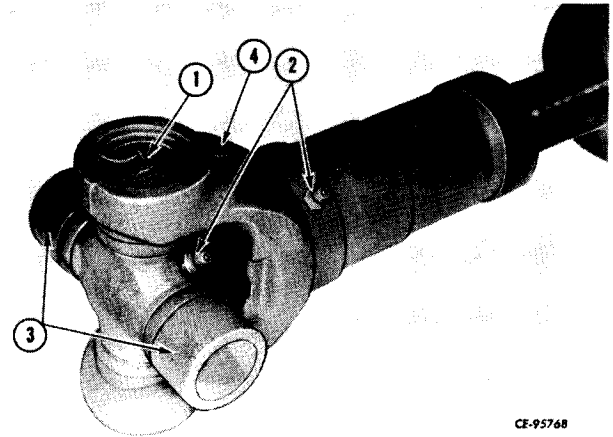

Figure 5-13
Install bearing retaining snap rings (1, Fig. 5-13) on each end, in yoke snap ring grooves. Install grease fittings (2) in slip yoke and spiders.